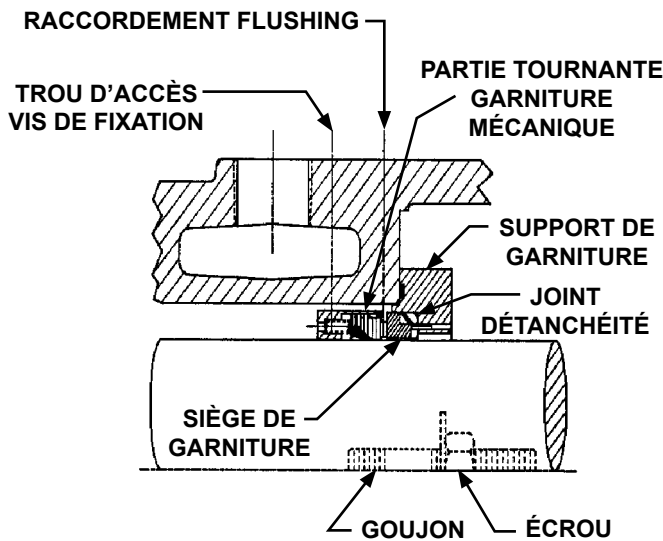

FIGURE 9
3. Coin PTFE (**Figure 9, page 9**)